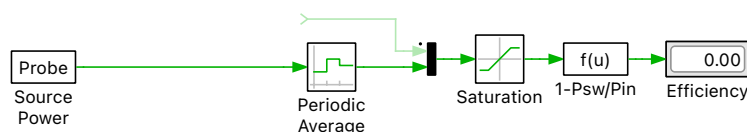

Figure 4: Calculating the converter efficiency using the input power and total device losses
- 1 Place an additional Probe, Periodic Average, and Multiplexer block into the schematic near where the total MOSFET and diode losses are summed. Probe the input power of the converter by monitoring the power signal of the DC Voltage Source. The **Averaging time** of this block should also be 0.05 ms. Using the Multiplexer, combine the source power measurement and total loss calculation of the switching cell into a single bus with a width of 2 signals, as shown in Figure 4. As an optional step, add a Saturation block with a **Lower limit** of 1 and an **Upper limit** of inf, which ensures that there are no “Division by zero” issues at the beginning of the simulation.